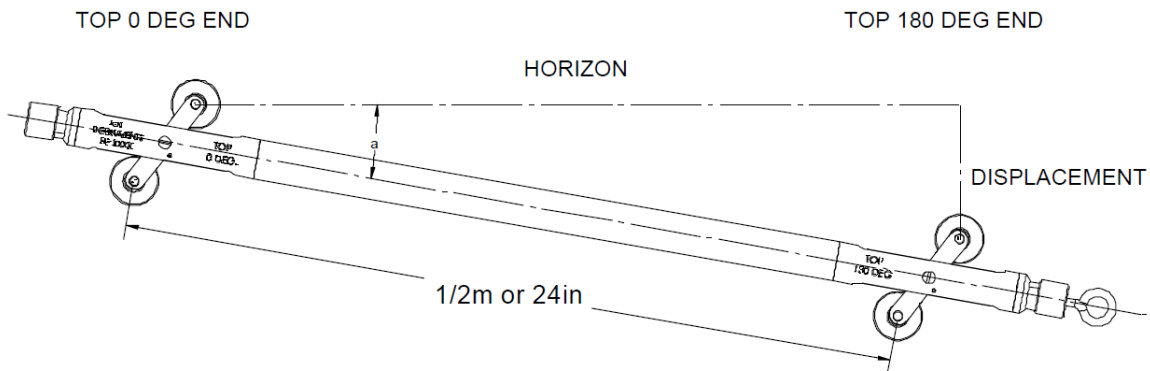

Figure 6: Vertical Displacement Orientation
- Verify that the probe's signal increases or decreases as its angle increases or decreases with respect to the horizontal. A positive deviation is given when the Top 0 DEG end is tilted above the TOP 180 DEG end (see Figure 6). If the system is not functioning as expected, contact RST Instruments Ltd. for technical support.